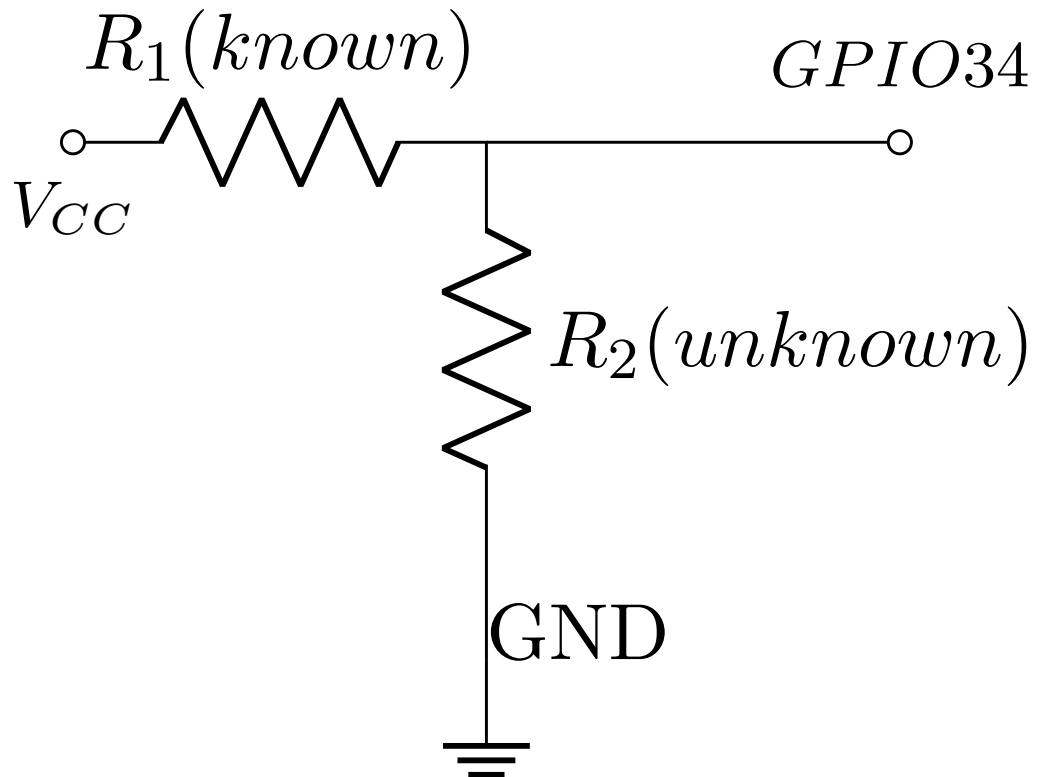

Figure 1.2.3.1: Voltage Divider
in series such that R_1 is connected to V_{cc} and R_2 is connected to GND. Refer to Fig. 1.2.3.1
1.2.4. The Ohm meter in this manual works on the principle of the voltage divider shown in Fig. 1.2.3.1.
1.4.3. Let R_1 be the known resistor and R_2 be the unknown resistor. Connect R_1 and R_2 in series such that R_1 is connected to V_{cc} and R_2 is connected to GND. Refer to Fig. 1.2.3.1